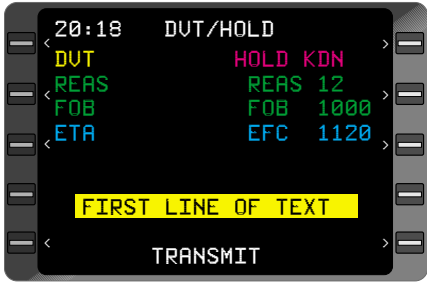

Figure 8-25
12. **ENTER** Key - DEPRESS. The cursor will move to first free text line. See Figure 8-25.